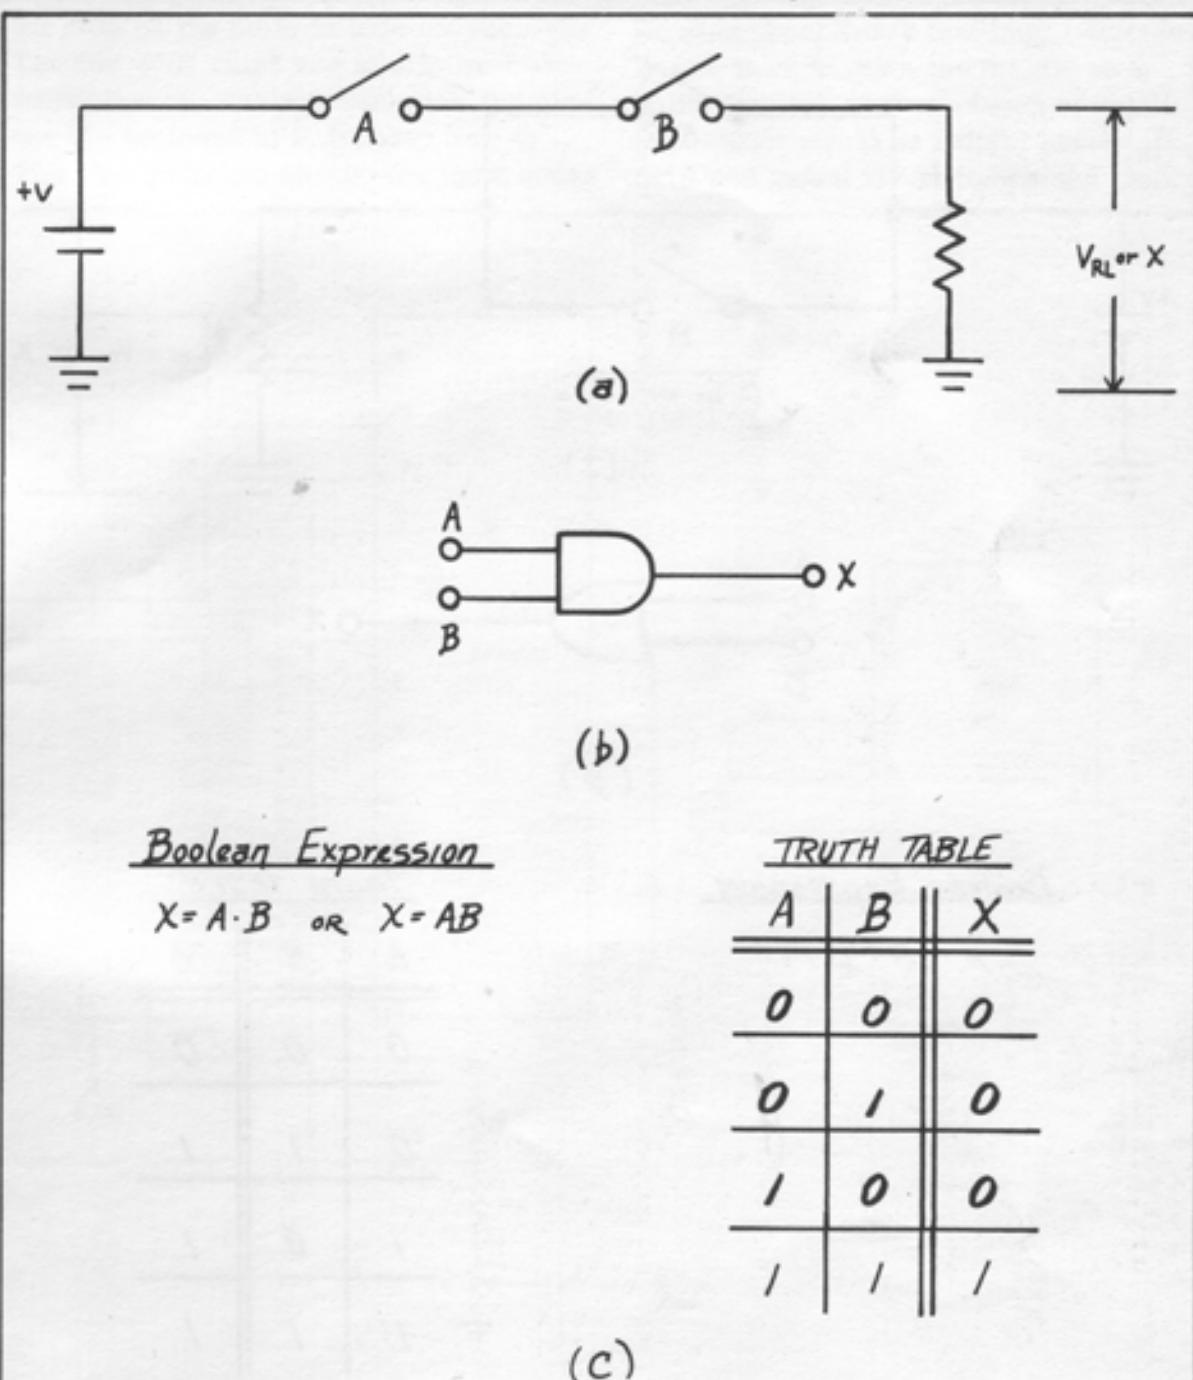

FIG. 1 : AND GATE
The AND gate is a device whose output is a logic 1 if all of its inputs are a logic 1. Figure 1(a) shows the switch
analogy of a two input AND gate. In this drawing we see two switches A and B which are in series. You can probably figure out that the only way current will flow through the load, and develop a voltage across it, is when both switches are closed. Seems too simple, doesn't it? Don't worry though, the equivalent logic circuit is just as easy. The accepted symbol for the AND gate is shown in figure 1(b). If we apply a value of voltage equal to +V with respect to ground to both inputs A and B, then the output of the gate (X) will have a value of V with respect to ground. The value of +V is
For the AND gate we can write a Boolean expression and a "truth table". Both are shown in figure 1(c). The expression is usually read as "X equals A and B" or "X equals AB". The truth table is just a tablature form of stating the value of X for all possible combinations of A and B. The two input AND gate is available in various DIP packages with different switching speeds and power consumption. (Figure 2) shows a 7408 quad 2 input AND gate package. The